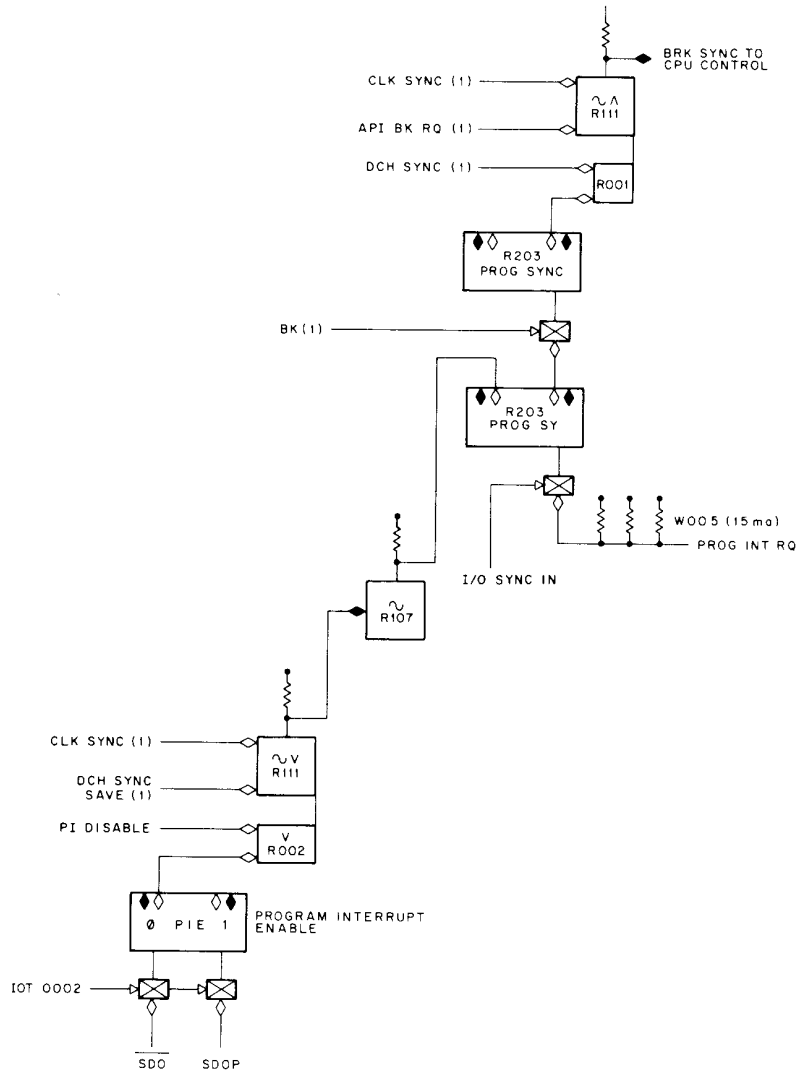

Figure 2-11 I/O PI Logic
The I/O logic used by the computers to effect the PI facility is shown in Figure 2-11. The flip-flop PIE (program interrupt enable) is set with the ION instruction (700042). Then, if CLK SYNC, DCH SYNC and PI disable are all low, the flag PROG SYNC can be set by I/O SYNC IN if a PROG INT RQ is initialized by some device. A control pulse called BK (1) then sets PROG SYNC which requests control memory to accept an odd address, which forces the computer to put the PC, link and extended memory address into location 0. The PC then goes to 1 and this becomes the address of the next instruction executed.